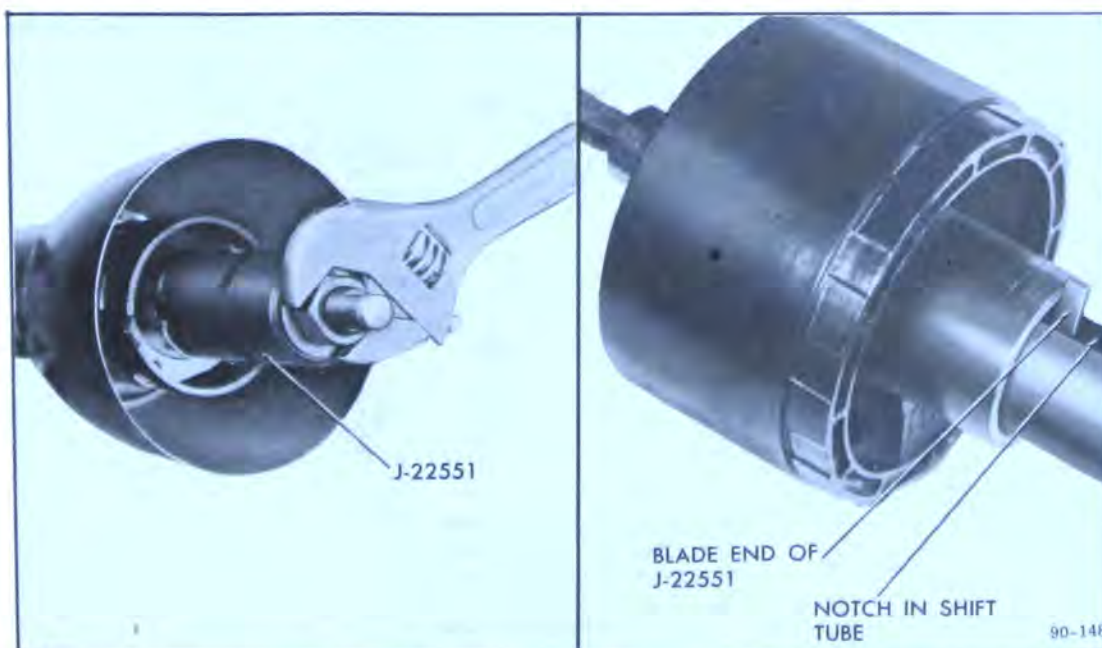

Figure 90-104 Forcing Shift Tube From Bowl
18. Insert the blade end of special tool J-22551 in notch of shift tube which is below the bowl key. Turn nut of J-22551 to pilot sleeve into upper end of shift tube, force the shift tube out of the bowl (see Figure 90-104) and